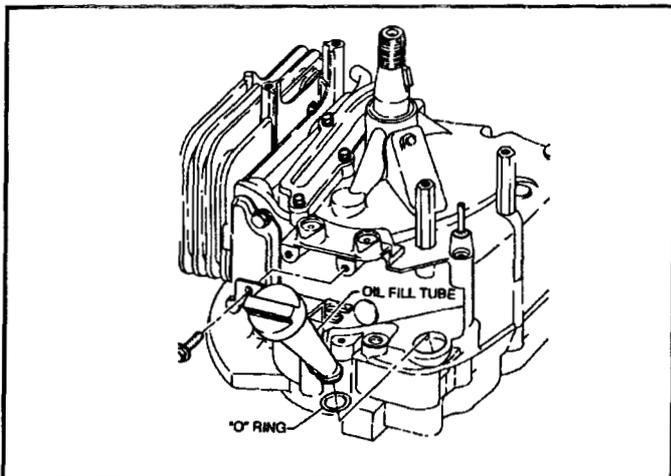

Figure 102
3. Mount the tube with two 3/8" hex, washer head cap screws. Torque the screws to 35 in lbs (4 Nm). See Figure 102 and 103.